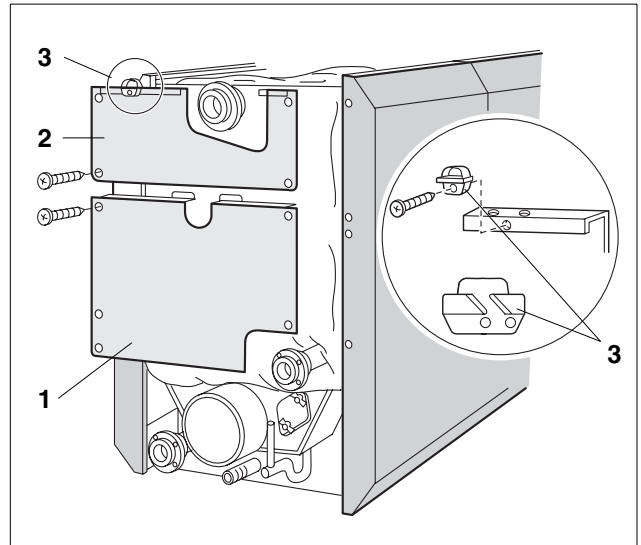
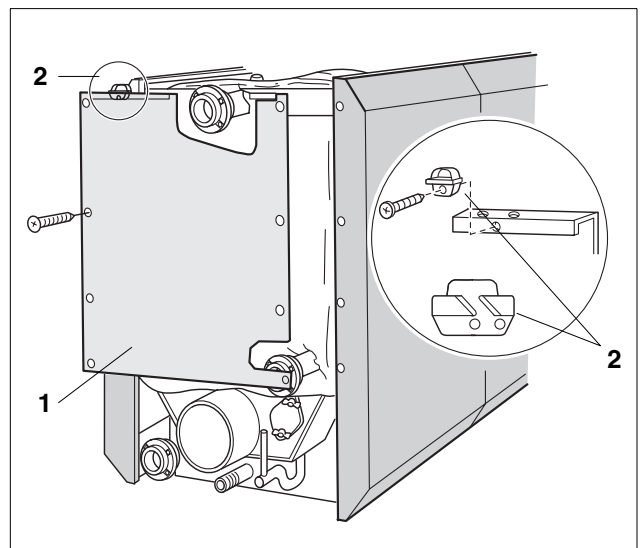

Fig. 11 Securing rear panels (Models /145 through /310)
Fig. 12 Securing single rear panel (Models /400 through /640)
The rear panel consist of 2 pieces for models /145 through /310 (Fig. 11). Rear panel for models /400 through /640 is a single piece (Fig. 12).
- Secure lower rear panel with 5 screws to the side panels (Models /145 through /310) (Fig. 11).
- Secure upper rear panel with 4 screws to the side panels (Fig. 11).
- Secure 1 or 2 cable raceways to the upper rear panel (Fig. 11).
- Secure rear panel with four screws on each side to the side panels (Models /400 through /640) (Fig. 12).
- Secure 1 or 2 cable raceways to the upper rear panel (Fig. 12).